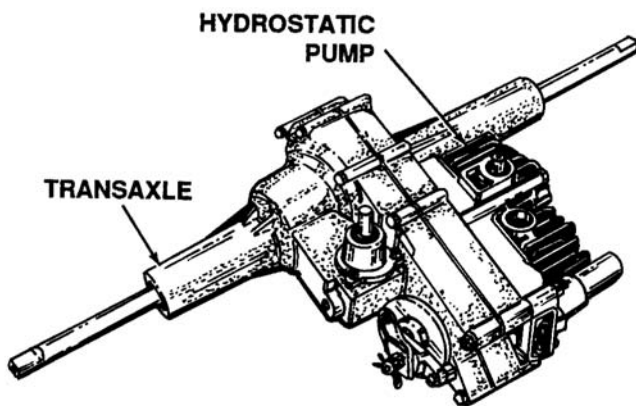

Figure 6-27. Transaxle and Pump
- Remove transaxle and pump from tractor. See Figure 6-27.